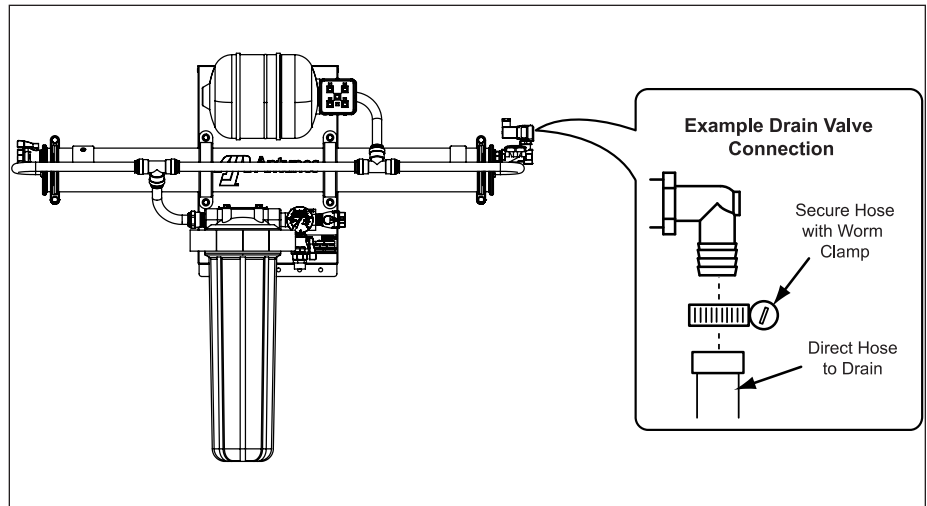

Figure 4. Drain Valve Connection
2. Connect one end of the hose to the Drain Valve with an appropriate fitting (not supplied) (Figure 4).